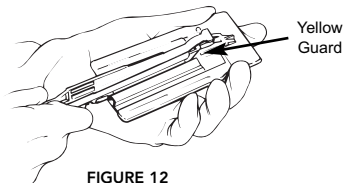

FIGURE 12
- 8b. Identify the anvil (ANV) and cartridge (CART) sides of the Peri-Strips Dry tissue assembly. Holding the cartridge side up, slide stapler loading unit onto the tissue assembly, being careful to ensure that the end of the yellow guard is positioned above the assembly clip (See figure 12).